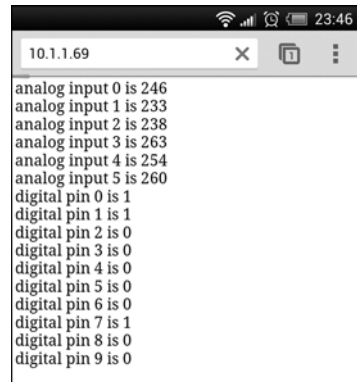

Figure 19-3: Values of the pins monitored by our station shown as a web page on any web-connected device with a web browser
Wait about 20 seconds, and then using a web browser on any device or computer on your network, enter the IP address from ❶. If you see something like Figure 19-3, the framework of your monitoring station is working correctly.
If and when your monitoring station is working, you can return to the most important parts of the sketch. The code from the beginning until ❸ is required because it activates the Ethernet hardware, loads the necessary libraries, and starts the Ethernet hardware in `void setup`. Prior to ❸, the `client.print` statements are where the sketch sets up the web page to allow it to be read by the web browser. From ❸ on, you can use the functions `client.print` and `client.println` to display information on the web page as you would with the Serial Monitor. For example, the following code is used to display the first six lines of the web page shown in Figure 19-3.